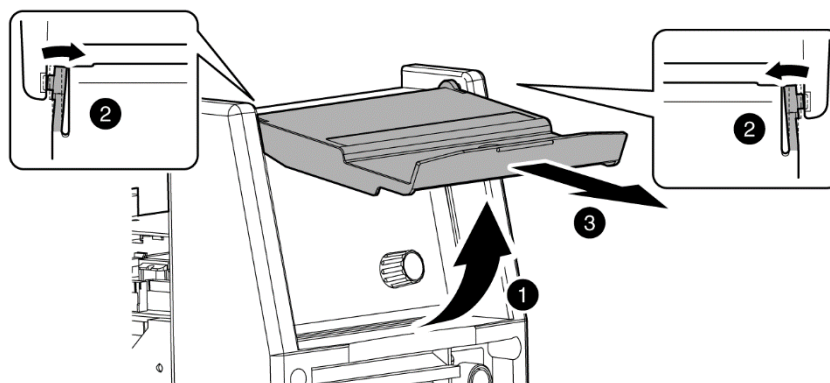

Figure 7-1 VRD ON/OFF Step A
- a) Remove the clear plastic cover from the control panel (see Figure 7-1).